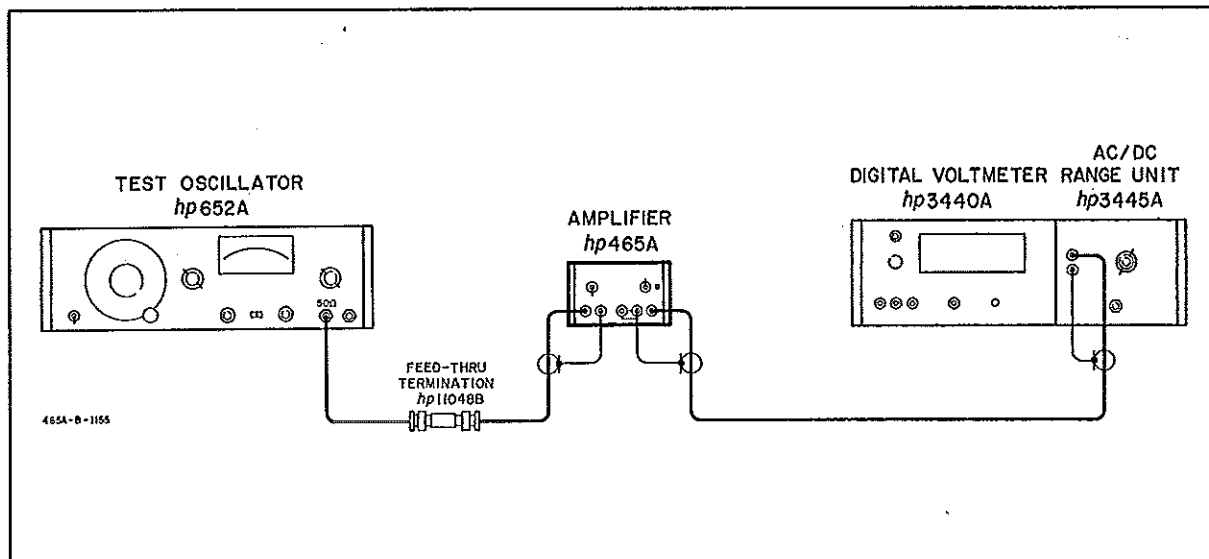

Figure 5-1. Frequency Response Check .
- a. Figure 5-1 describes the recommended test arrangement. A Test Oscillator (-hp- Model 652A) and an AC Digital Voltmeter (-hp- Model 3440A/3445A) will be required for this check.
- a. Figure 5-1 describes the recommended test arrangement. The -hp- 3440A/3445A operates only between 50 Hz and 100 kHz so an additional AC Voltmeter (-hp- Model 331A) is recommended for the 10 Hz and 1 MHz checks.
- a. Use the test arrangement shown in Figure 5-1. Set the 465A GAIN to 20 dB.